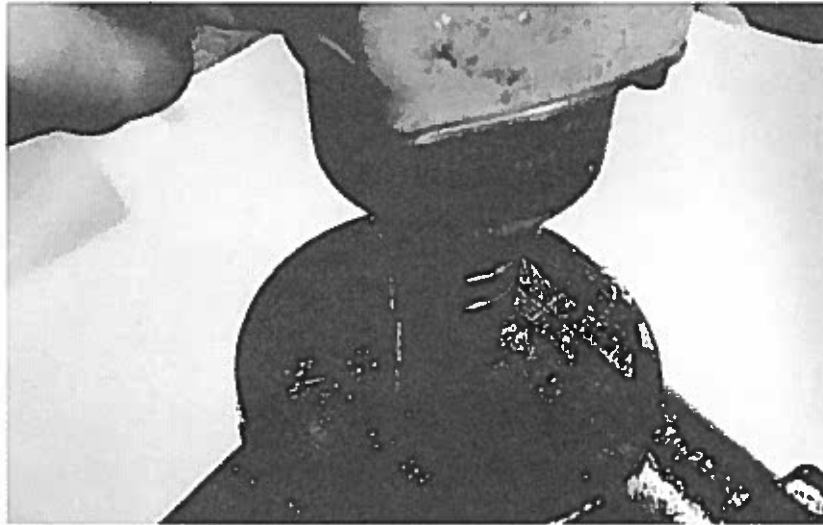

Figure 5
6. Use an impact wrench to back off the retainer. The retainer will act as a jackscrew to partially remove the pitman arm (Figure 5).